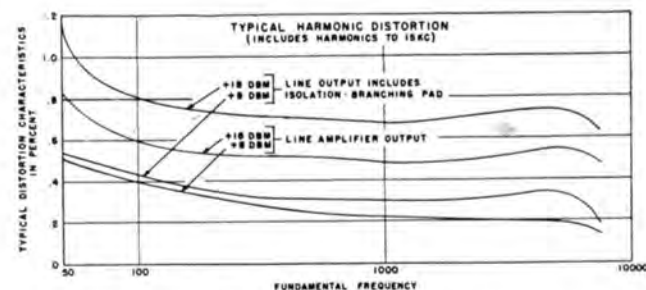

Figure 16 — Typical harmonic distortion.
- Harmonic Distortion:** See Figure 16.
Maximum Output Level: See curves of distortion vs. output level. Figure 16.